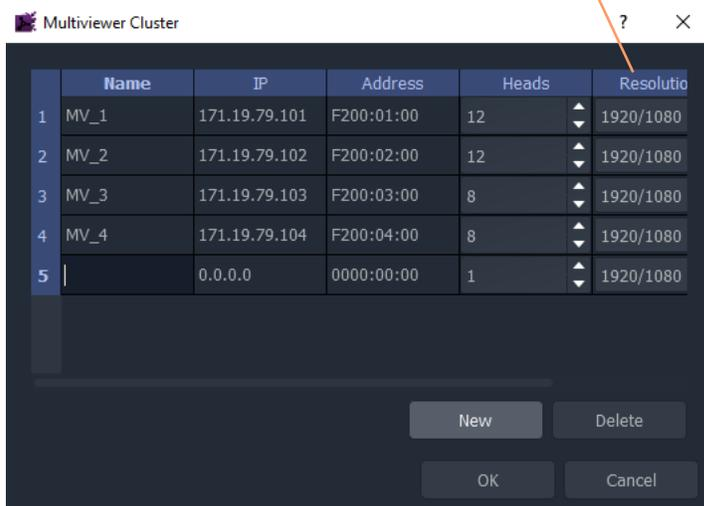

Fig. 7-13: Multiviewer Cluster Dialog- Adding New Multiviewer Device
- 1 Click **New** to add the information about each multiviewer of the cluster. See Figure 7-13.